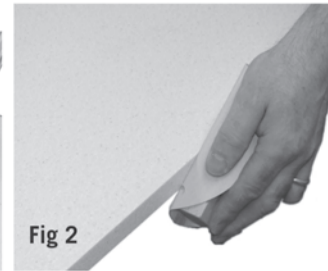

Fig 2
5. Don't forget to sand top and bottom edges with 240 grit sandpaper to remove any chipping. (Fig 2)